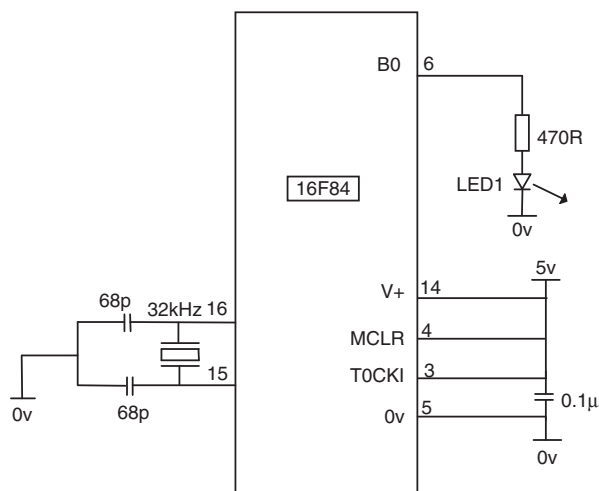

Figure 2.1 Circuit diagram of the microcontroller flasher
Let us consider a program to flash an LED ON and OFF at 0.5 second intervals. The LED is connected to PortB bit 0 as shown in Figure 2.1.
Notice from Figure 2.1 how few components the microcontroller needs – $2 \times 68\text{pF}$ capacitors, a 32.768kHz crystal for the oscillator and a $0.1\mu\text{F}$ capacitor for decoupling the power supply. Other oscillator and crystal configurations are possible – see Microchip’s data sheets for other combinations. I have chosen the 32kHz crystal because it enables times of seconds to be produced easily.
- Line1 the instruction BSF and its data PORTB,0 is shorthand for Bit Set in File, which means Set the Bit in the File PORTB, where bit0 is the designated bit. This will cause PORTB,0 to be Set to a logic1, in hardware terms this means pin6 in Figure 2.1 is at 5v turning the LED on.
- Line3 BCF PORTB,0 is the opposite of Line1, this code is shorthand for Bit Clear in File, which means Clear the Bit in the File PORTB, where bit0 is the designated bit. This will cause PORTB,0 to be Cleared to a logic0, in hardware terms this means pin6 in Figure 2.1 is at 0v turning the LED off.